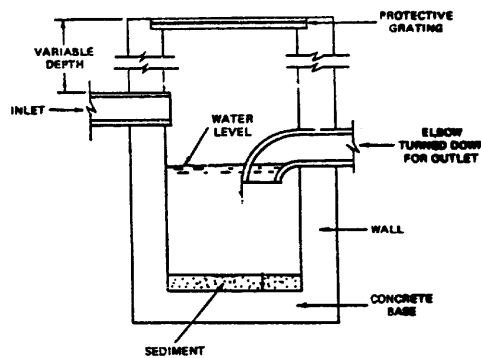

Figure 7-3: Large scale commercial catch basin
6. Ideally, the catch basin outlet should be equipped with an elbow facing down to prevent debris from washing into the outlet drain line (**Figure 7-3**).